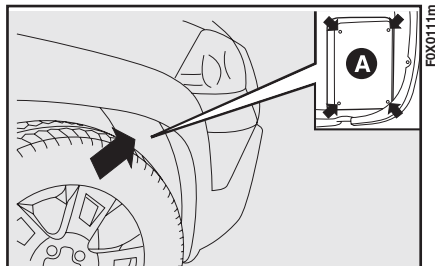

fig. 131
- remove cover A-fig. 131 from the wheel arch, unscrewing the 4 screws indicated by the arrows;